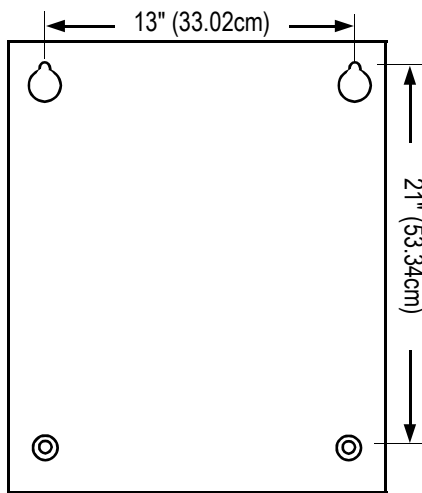

Figure 3 - Accelaterm Cabinet Mounting Hole Dimensions
2. Mark the four mounting holes against the mounting surface using the Accelaterm cabinet as a template or using the measurements provided in Figure 3.